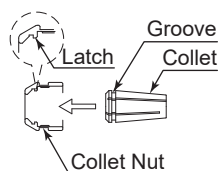
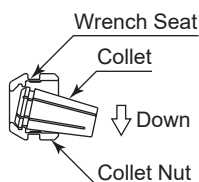

Fig. 3
Fig. 4
- ① Hold the collet nut in one hand, and install the collet. (Fig. 3)
If the collet is difficult to install, tilt the collet to one side when inserting it, so that the tabs can more easily be seated in the groove. (Fig. 3, Fig. 4)